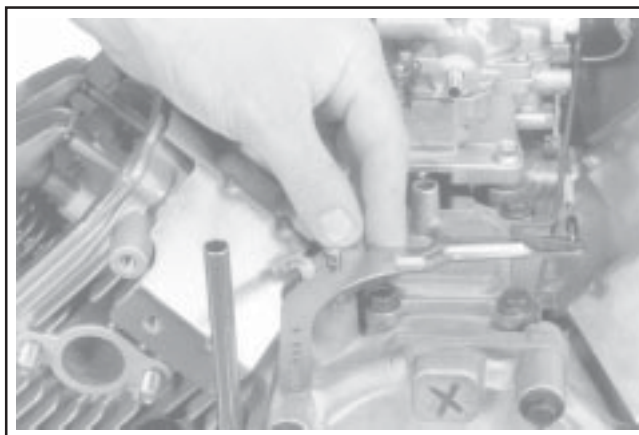

Figure 11-80. Install Governor Lever to Shaft.
1. Install the governor lever onto the governor cross shaft. See Figure 11-80.